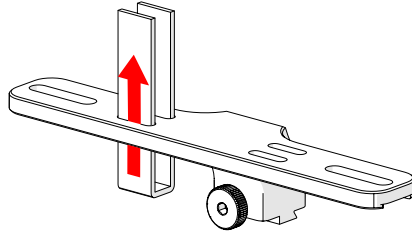

Fig. 213 - Insert velcro straps
1. Slide the velcro strap through the bracket's holes (*Fig. 213*).